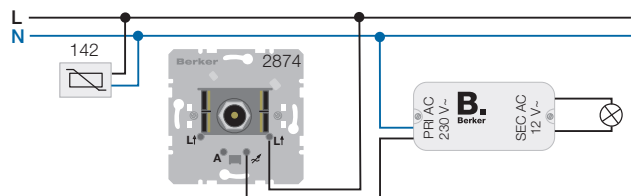

Bild 3: Connection example with dimmer and electronic transformer
- In the case of dimmed systems, switch the overvoltage protection module before the dimmer (Figure 3).